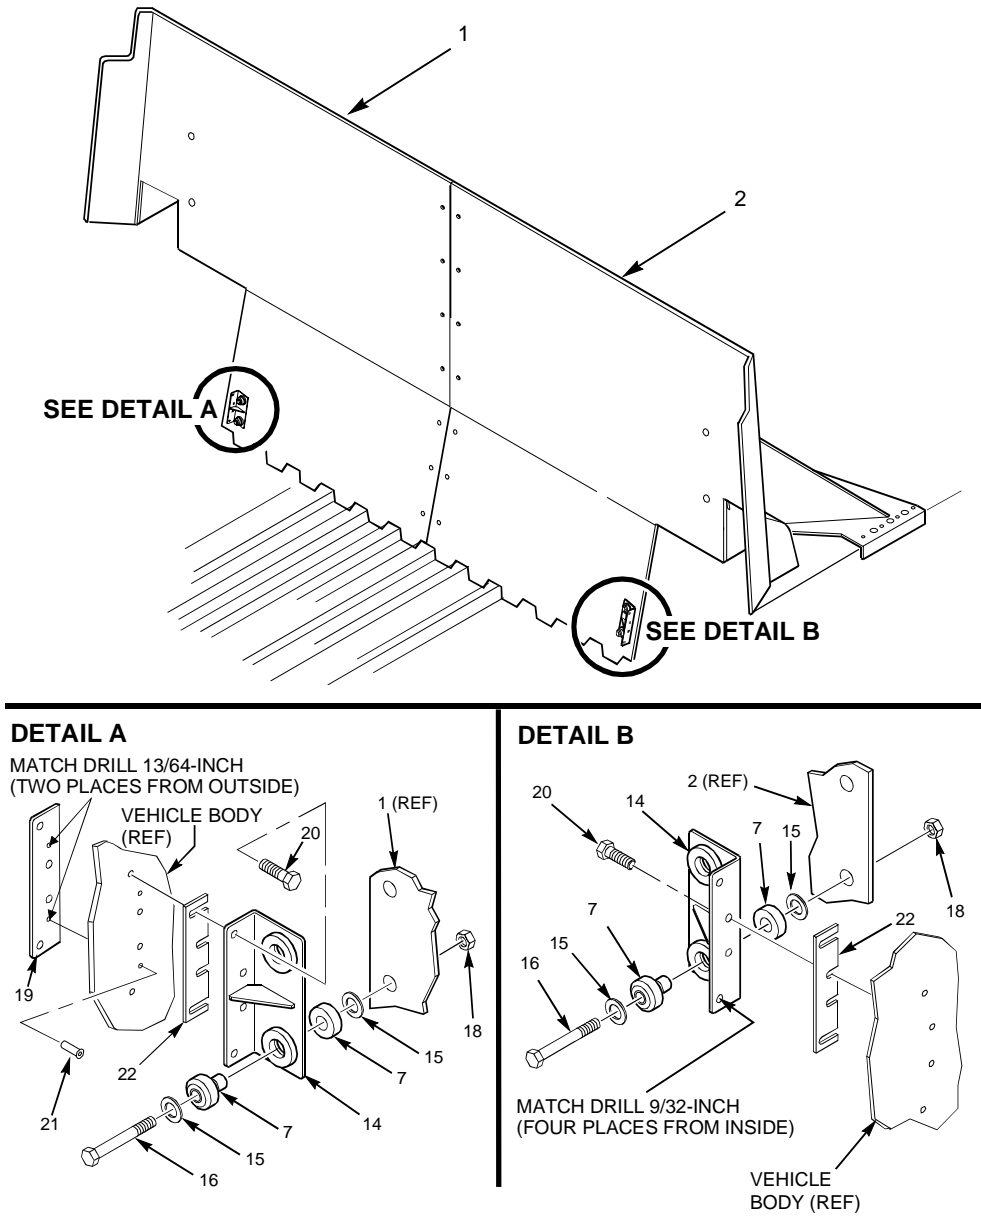

Figure 2-13. C-Partition Isolator Brackets Removal (4 Door Only)
2. Remove C-partition isolator brackets as follows (see figure 2-13).
- a. Remove two capscrews (16), four washers (15), two isolator mount bushings (7), and two locknuts (18). Discard locknuts (18) per detail A. Remove four capscrews (20), shim (22), and right isolator bracket (14).
- b. Remove two capscrews (16), four washers (15), two isolator mount bushings (7), and two locknuts (18). Discard locknuts (18) per detail B. Remove four capscrews (20), shim (22), and left isolator bracket (14).